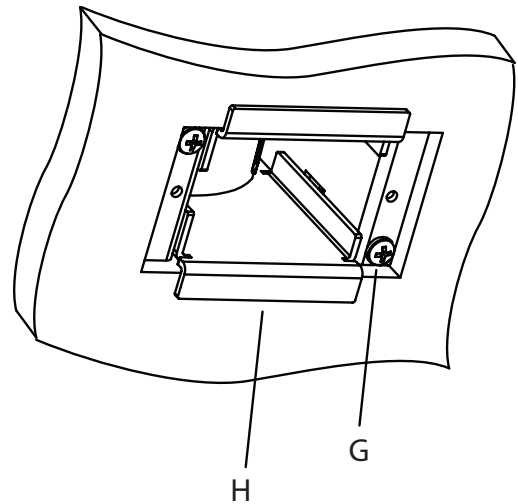

Fig. 4
13. While keeping the side tabs (H) pressed against the mounting surface, secure the Minibox to the mounting surface by tightening the two mounting screws (G). (Fig. 4)